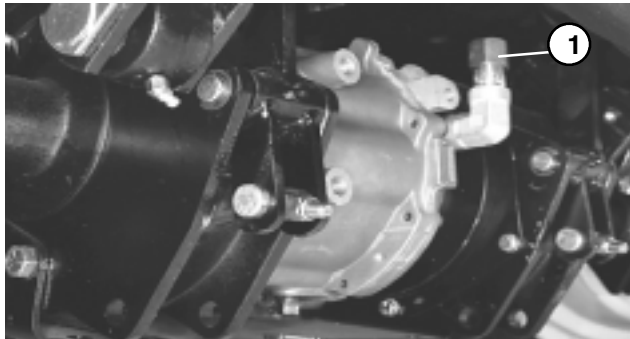

Figure 6
3. Unscrew dipstick cap (Fig. 6) from the filler neck and wipe it with a clean rag. Screw dipstick cap finger tight onto filler neck. Unscrew the dipstick and check level of lubricant. If level is not within 1/2 inch from the groove in the dipstick, add enough to raise level to groove mark. DO NOT OVERFILL by more than 1/2 inch above groove.